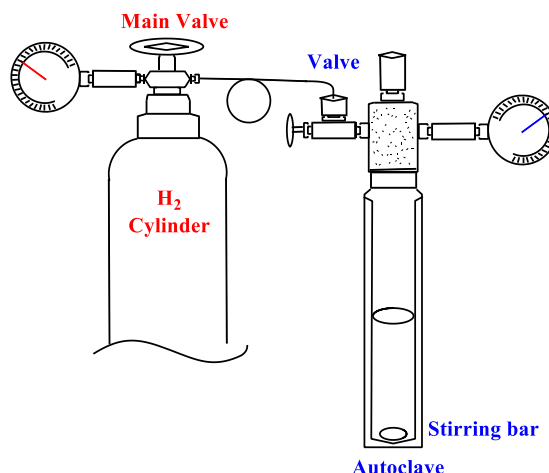

Figure 2. A hydrogenation apparatus.
- (6) The autoclave is connected to a hydrogen source using the arrangement shown in Figure 2. The gas inlet tube is attached to the autoclave and the main valve of the cylinder is opened. After closing the main valve of the cylinder, the connector of the gas inlet tube is loosened to release hydrogen pressure and tightened immediately. This procedure is repeated five times to replace the air originally present in the gas-inlet tube with hydrogen.
- (7) Hydrogen is introduced into the autoclave until the pressure gauge indicates ca. 0.3 MPa, and the pressure is carefully released to ca. 0.1 MPa. This procedure is repeated three times.
- (8) The main valve of the hydrogen gas is opened and hydrogen is introduced until pressure gauge indicates a specific pressure.
- (9) The valves are closed and the gas inlet tube is disconnected.
- (10) The reaction mixture is stirred at a specific temperature for a specific length of time.
- (11) The autoclave is cooled to ambient temperature and excess hydrogen is carefully released by opening the valve of the autoclave. The apparatus is then disassembled.
- (12) The conversion and enantiomeric excess of the obtained product are determined by gas chromatography (GC) analysis or high-performance liquid chromatography (HPLC) analysis.